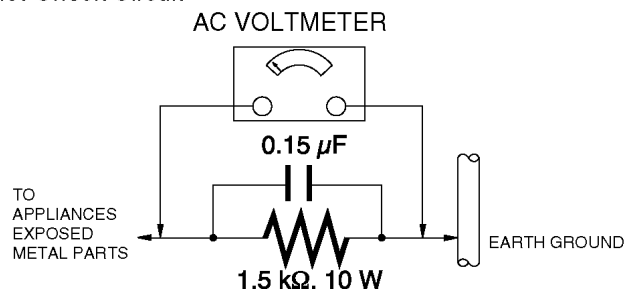

Figure. 1
4.3. LEAKAGE CURRENT HOT CHECK (See Figure 1.)
2. Connect a 1.5 k Ω , 10 W resistor, in parallel with a 0.15 μ F capacitor, between each exposed metallic part on the set and a good earth ground, as shown in Figure 1.